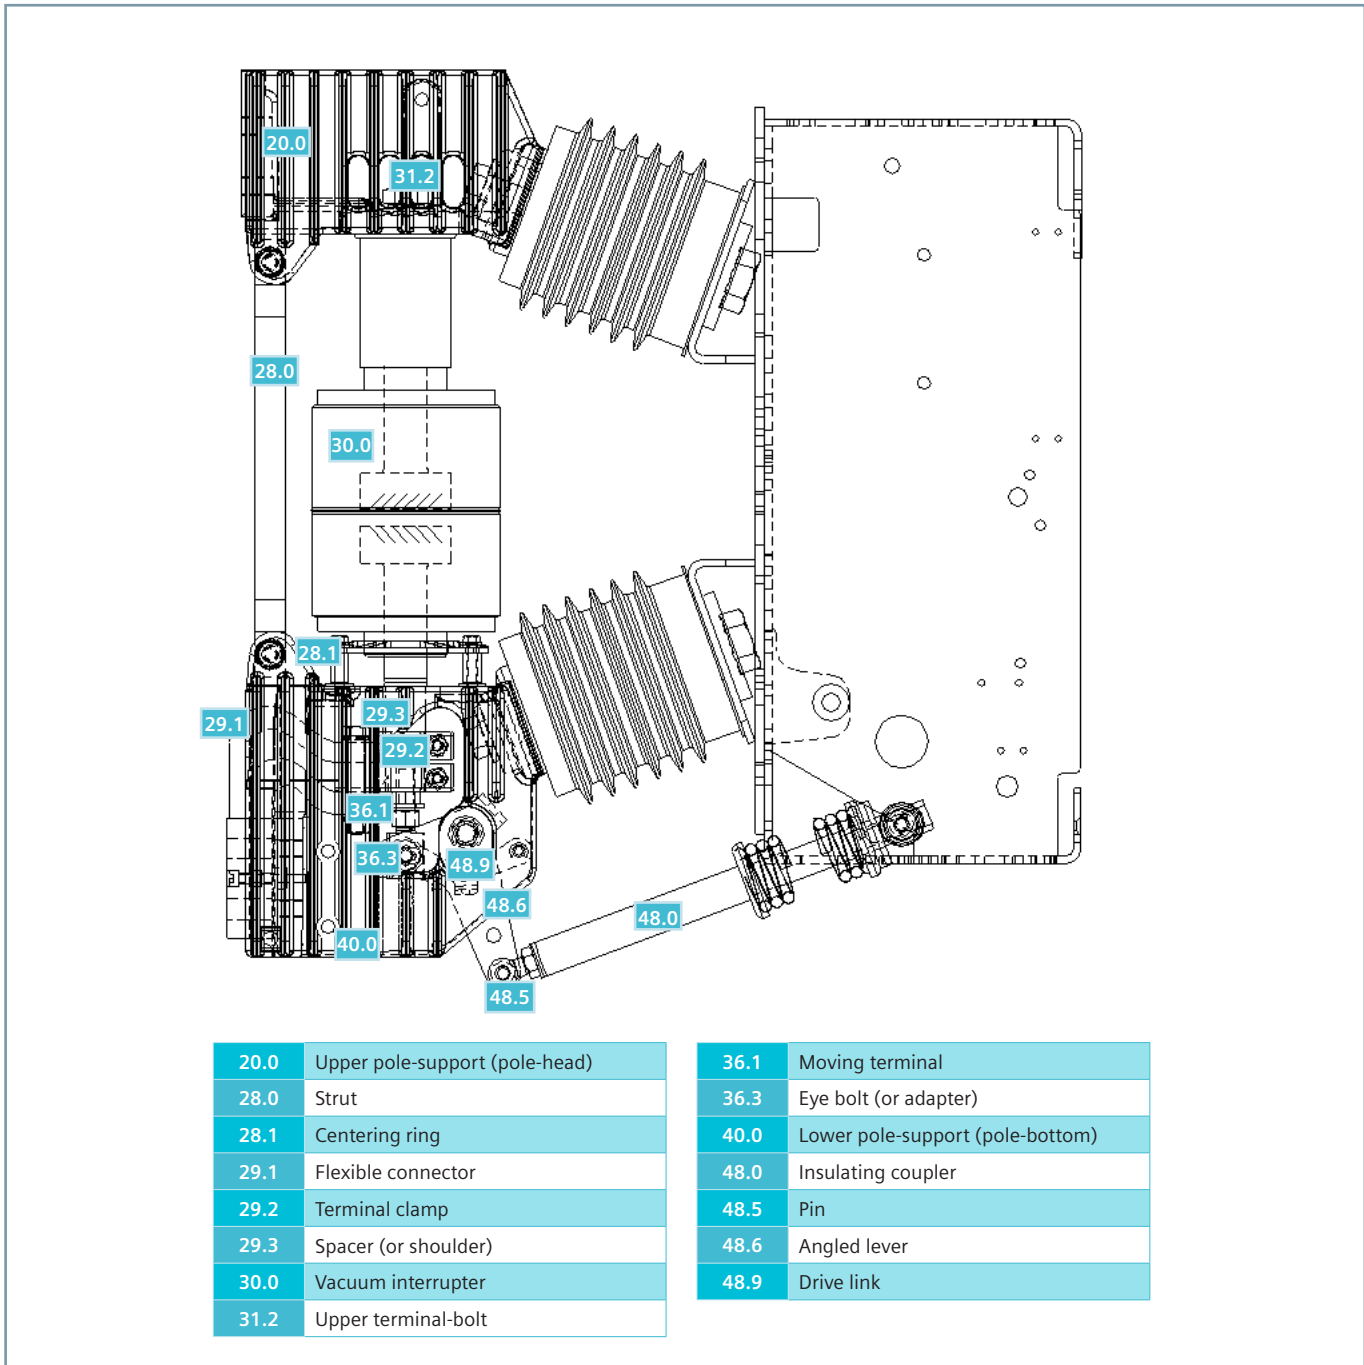
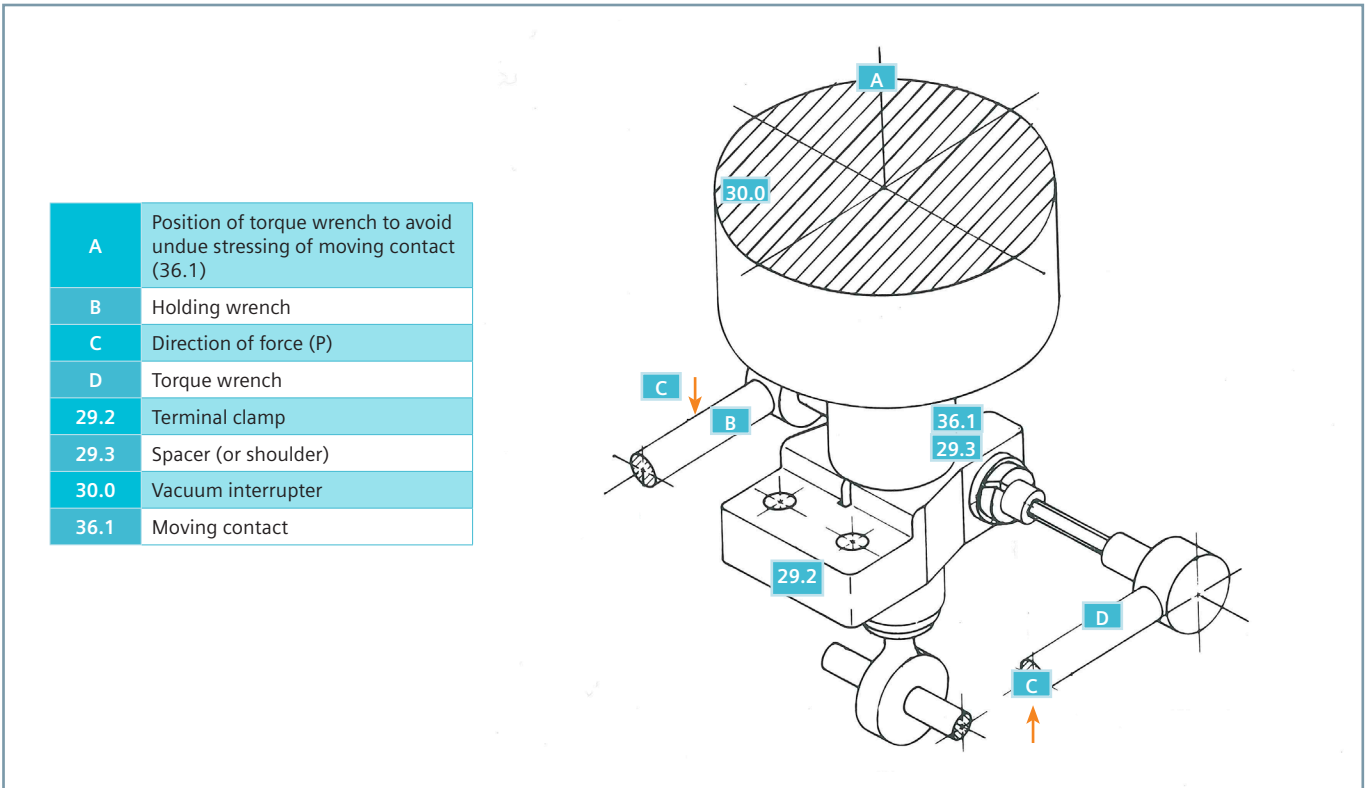

Figure 42: Vacuum interrupter replacement illustration
Figure 43: Illustration showing required technique for fastening terminal-clamp hardware
The following procedure describes the procedure for removing and replacing a vacuum interrupter. Components may be identified by referencing Figure 42: Vacuum interrupter replacement illustration on page 56 and Figure 43: Illustration showing required technique for fastening terminal-clamp hardware on page 57.
- 1.2 Loosen the lateral bolt(s) on terminal clamp (29.2). Refer to Figure 43: Illustration showing required technique for fastening terminal-clamp hardware on page 57 and employ the illustrated procedure to loosen clamp hardware (6 or 8 mm hex-key and 13 or 16 mm socket).
- 2.7 Raise terminal clamp (29.2) against the spacer (29.3) on the movable terminal of the vacuum interrupter (36.1) and position the vacuum interrupter (30.0) so that its groove faces the connecting surface of flexible strap (29.1). Refer to Figure 43: Illustration showing required technique for fastening terminal-clamp hardware on page 57 and employ the technique illustrated to fasten the terminal clamp. Note opposing wrenches. Tighten the bolt(s) of the terminal clamp to a torque of 40 Nm (30 ft-lb), taking care to see that the terminal of the vacuum interrupter is not subjected to excessive bending movement.